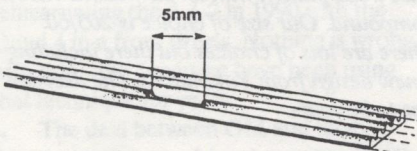

Figure 2. Replace belts if damage or wear exceeds 5 mm along the V groove.
1. A belt should be replaced if it is damaged, frayed or a worn area exceeds 5mm along the length of the V groove (Figure 2).